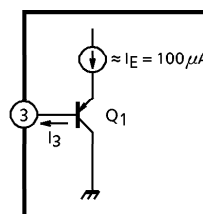

Fig.1
(1) Threshold Voltage
Pin ③ is coupled to the base of Q₁ (PNP-Tr) as shown in Fig.1.
(3) I₃ (In Fig.1)